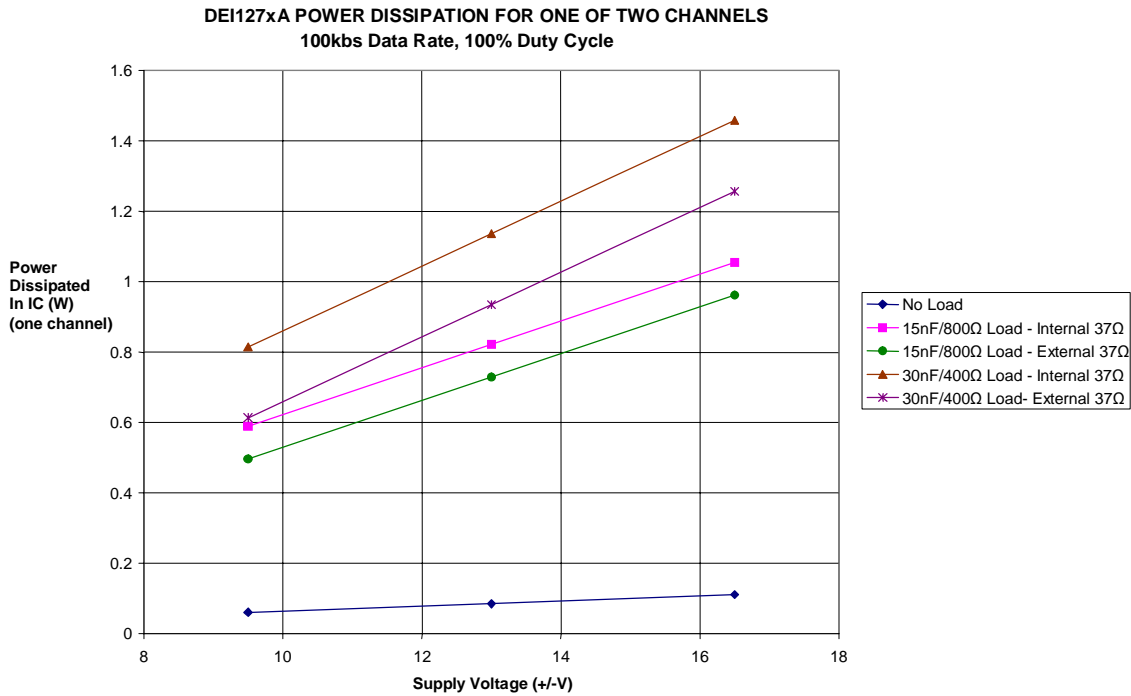

Figure 6 Internal Power Dissipation
The internal power dissipation for 100kbs applications can be estimated from Figure 6. P_d for low speed operation (12.5kbs) is normally not an issue, so is not considered here. The curves in Figure 6 indicate P_d for various loads, supply voltage, and Rout configuration. It represents P_d for 100% Data Duty Cycle at 100KBS with no word gap null times. Thus the indicated P_d values are considered maximum values and should be reduced to account for the Data Duty Cycle as follows:
- Use Figure 6 to select an indicated P_d for the application supply voltage and load. This may involve estimating the Line Driver's load and interpolating between the curves.
- Calculate adjusted $P_d = DDC * (P_d - 0.1) + 0.1$ (W)